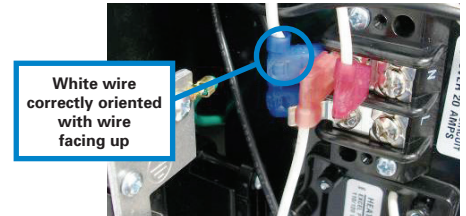

Figure 2-7
Step 2-4. Two of the power wires coming from the terminal block must be adjusted in order to reach the Control properly. The **white** wire going from the terminal block to the Control must be unplugged and moved from behind the housing retainer. Simply unplug it from the terminal block, route it from under the housing retainer, reroute it above the housing retainer, and plug it back in so that the flag connector is oriented as illustrated in **Figure 2-7**.